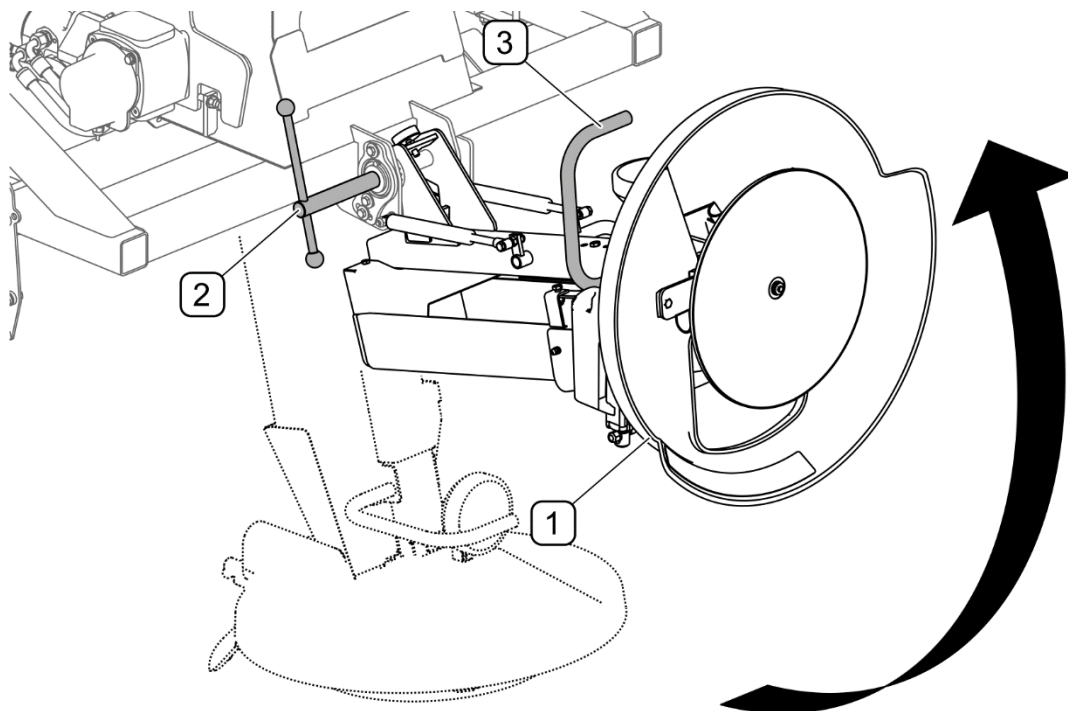

FIG. 4.35 Raising the spreading mechanism
- raise the spreading unit and lock it in the upper position (FIG. 4.35)
Before unloading material from the tank, raise spreading mechanism (FIG. 4.35). To do this